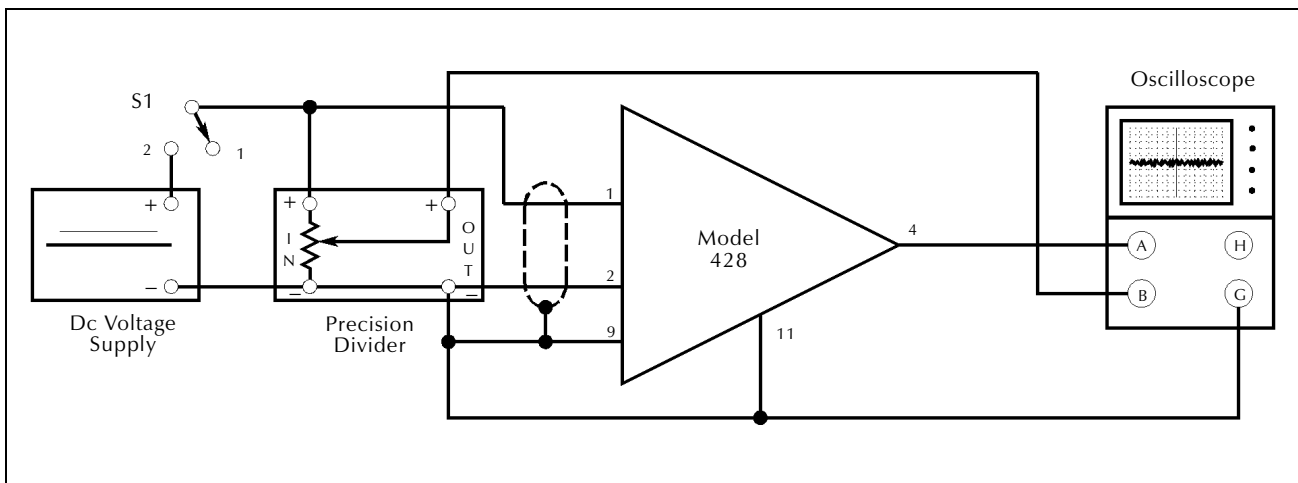

Figure 5-2
1. Connect the amplifier to be tested as shown in Figure 5-2.